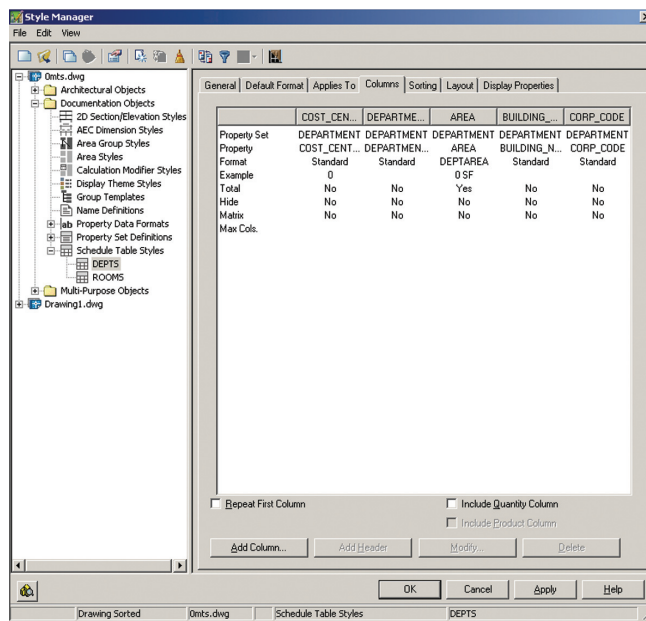

Figure 1
4. Columns – allows you to add columns to represent properties that are reported in the schedule table style. You can also add column headings, edit column data and edit column placement in your style (see Figure 1).
Once your style has been created, you can drag and drop it on to your scheduling tool palette for quick access. I highly recommend doing this if you plan to use your new schedule table style frequently. See Figure 1.